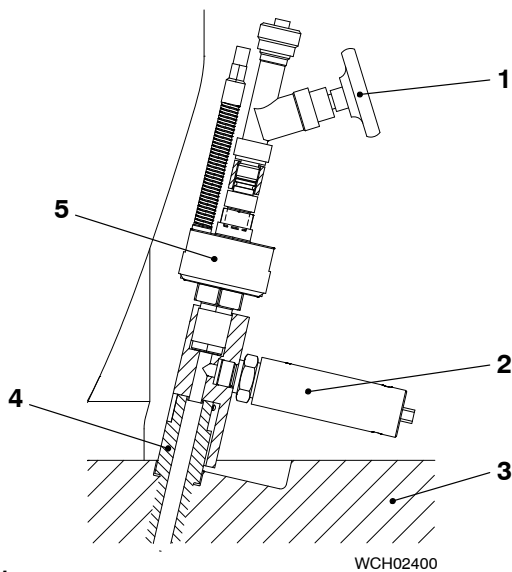

Fig. 1
Some cylinder covers have an indicator valve installed together with a relief valve. Other cylinder covers have only an indicator valve. This procedure is only applicable for the cylinder covers that have an indicator valve together with a relief valve (refer to Fig. 1).
- 1) Open the indicator valve (1, Fig. 1) to make sure that there is no pressure in the compression chamber.
- 2) Remove the relief valve (2) from the adapter (4).